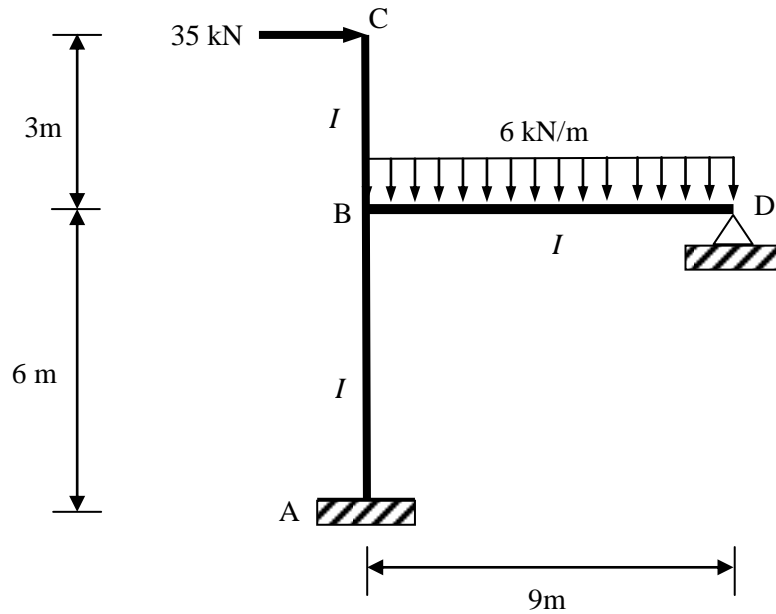

Figure 8
5. (a) **Figure 8** shows a frame carrying a uniformly distributed load of 6 kN/m on span BD and a horizontal point load of 35kN at point C. Supports A and D are fixed and pinned, respectively. Each member has the value of I as shown in **Figure 8**. Determine the internal moments at joints A and B of the frame by using Slope Deflection Method. Hence sketch the deflected shape, shear force diagram and bending moment diagram of the frame.
- (b) With the aid of sketches, explain the behaviour of the frame as shown in **Figure 8** in terms of bending moment and deflected shape, if the uniform distributed load 6 kN/m is replaced by a point load of 20 kN at the midspan of BD.